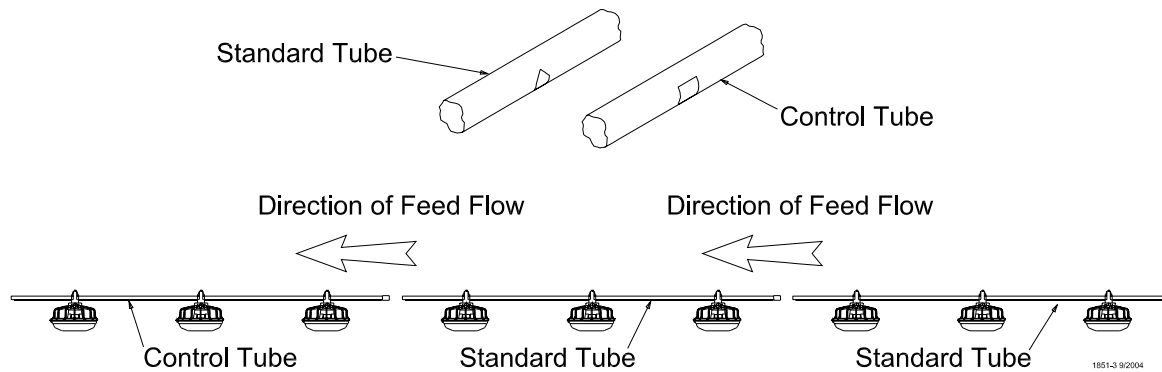

Figure 22. Attaching Feeder Tube Assemblies
1. The auger tubes and feeders may be laid out end to end in approximately the final location of the line. **The belled end of each tube should be toward the Hopper end of the line. See Figure 22.**